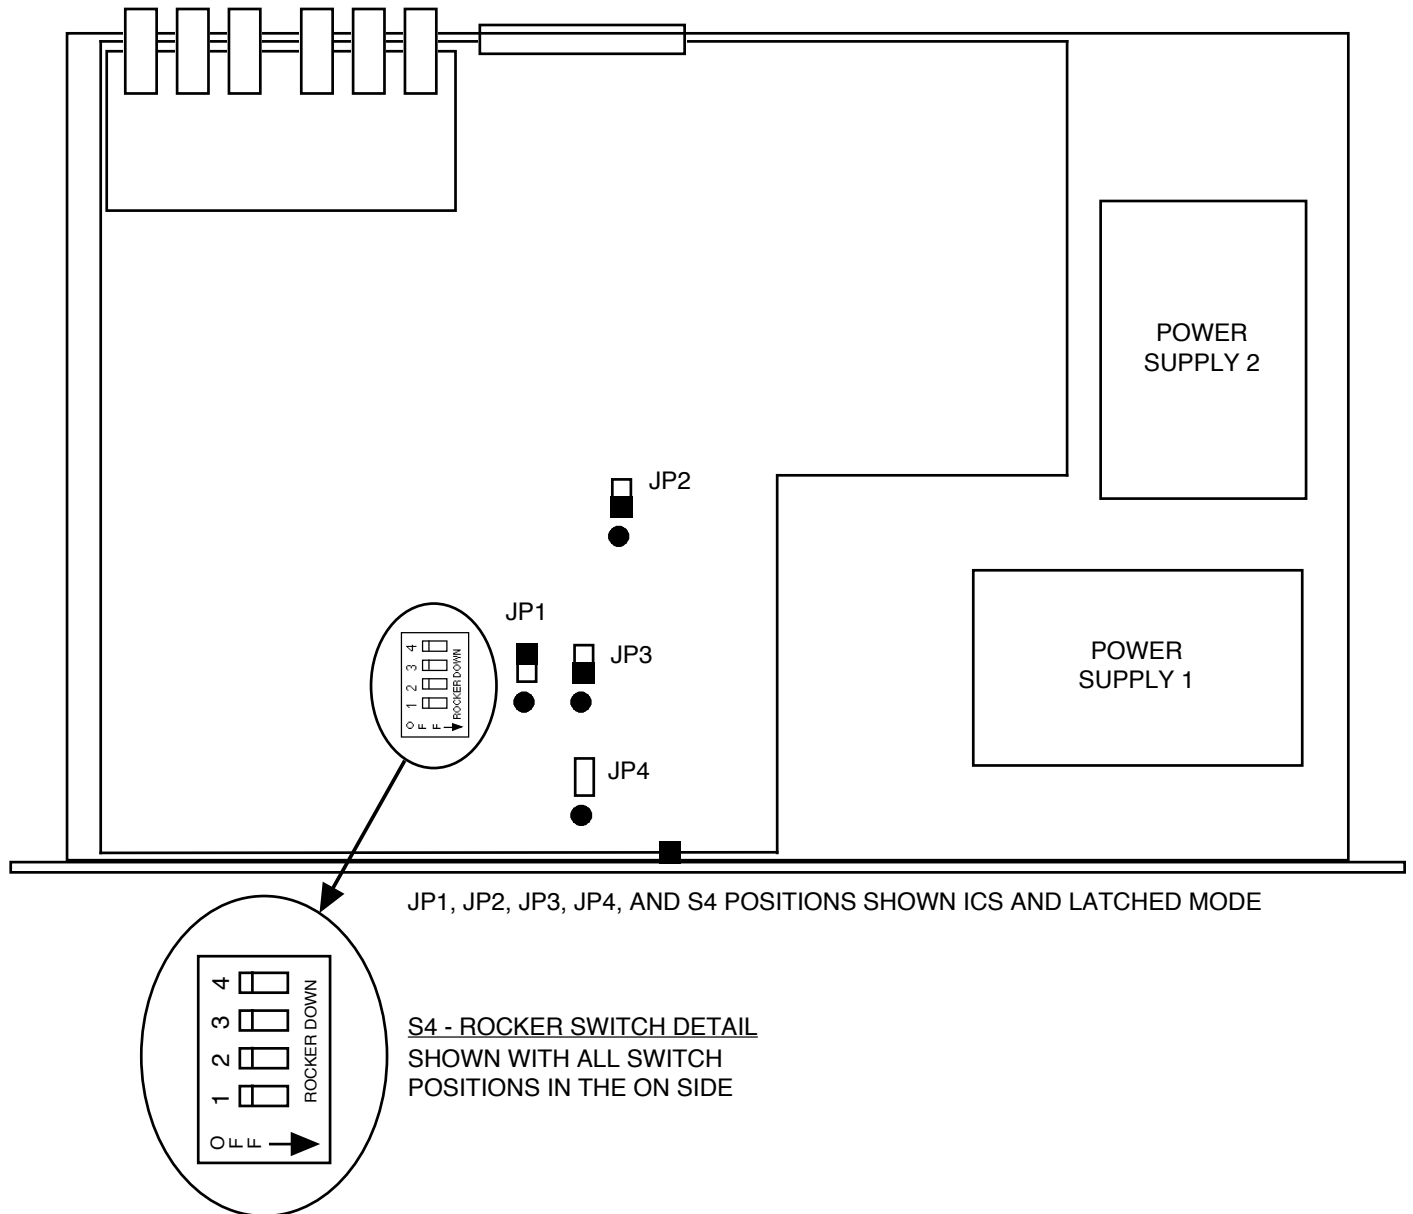

FIGURE 2.1 1582-25L RF Switch Assembly
1. Set the on board controls as desired (see Sections 2.3.1 and 2.5, and Figure 2.1).